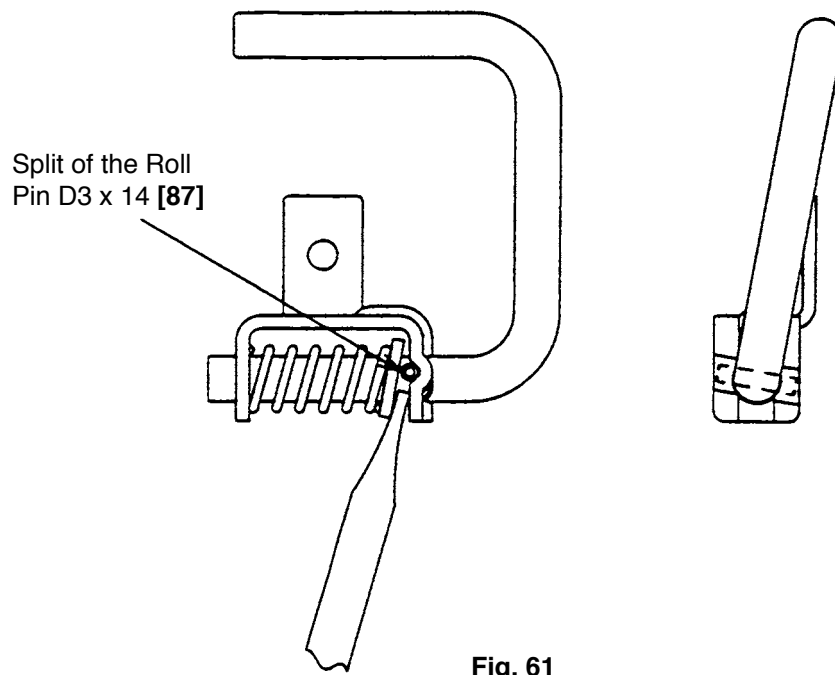

Fig. 61
It becomes easy to reassemble if the clearance between the Bracket [91] and Washer (B) [89] is widened with a flat-blade screwdriver beforehand. Note that the cross groove of the Bracket [91] must be aligned with the Hook [88] properly. Perform reassembly in the proper direction as shown in Fig. 61.